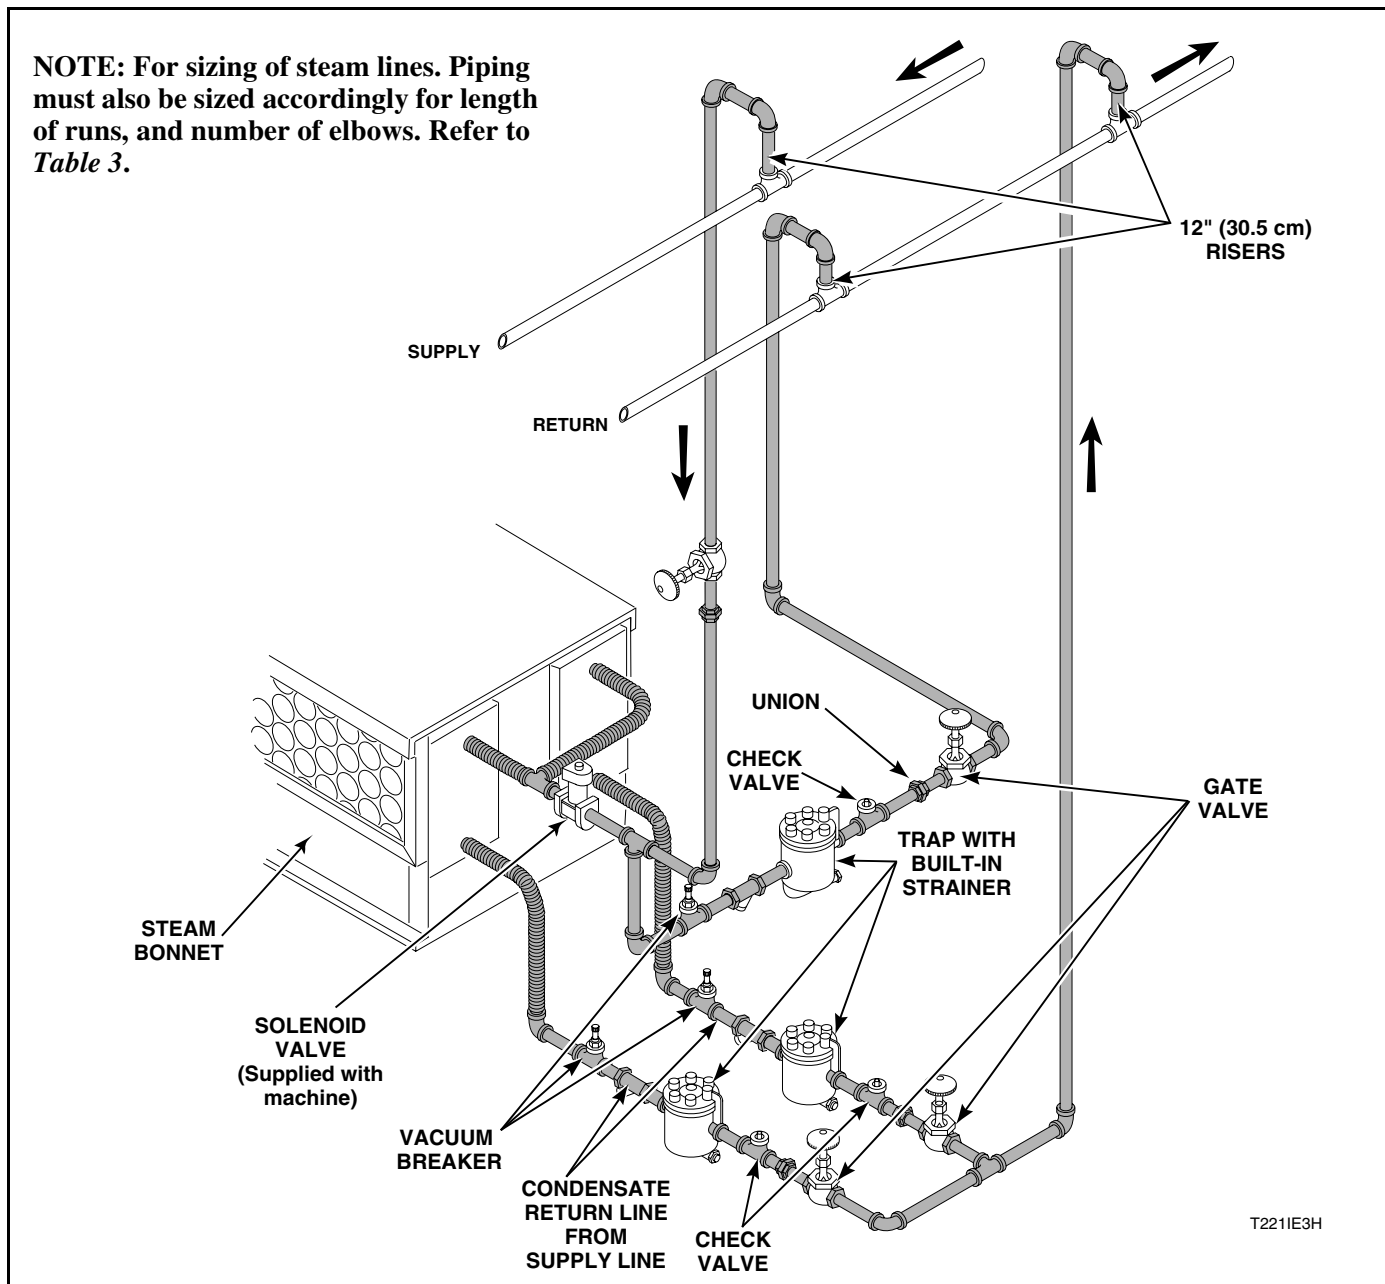

Figure 9
1. Refer to *Figure 9* for proper steam pipe configurations.
- b. Connect the steam solenoid valve to the related steam coil inlet connection with nipples, flex hoses, unions, and tee. Refer to *Figure 9*.
- c. Install a gate shut-off valve in the steam supply line. Connect the shut-off gate valve outlet to the solenoid steam valve inlet connection. Refer to *Figure 9*.
The steam trap must be installed and the coil outlet connections must be connected to the condensate return lines. The following steps outline the procedure for installing the steam trap and connecting the condensate return lines. Refer to *Figure 9*.